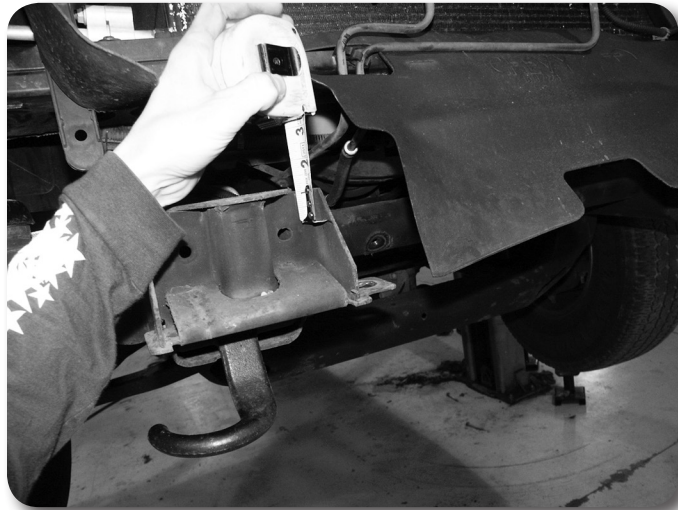
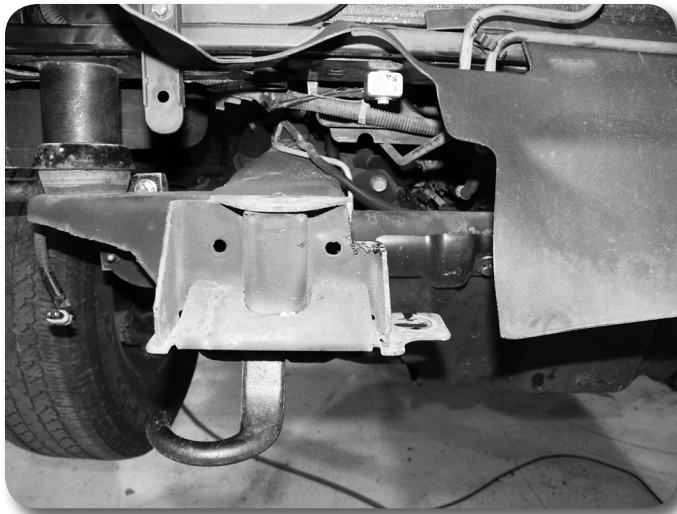

Figure 25A
Figure 25B
60. The factory front bumper mount brackets on the frame must be trimmed. Measure down 1-1/4" from the upper inside corner of each bracket and mark. **Figure 25A** Make a vertical cut line on the front mounts that is inline with the inside surface of the frame rail down the mark. Cut the upper corner of the bumper mount off along the lines. **Figure 25B** Paint any bare metal to prevent corrosion.